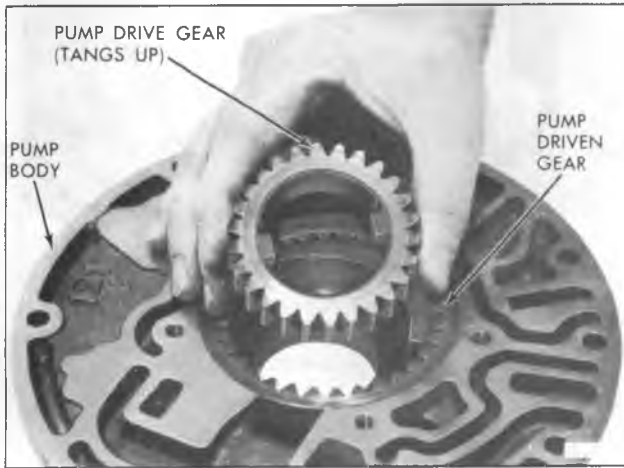

Figure 61—Installing Pump Drive Gear
11. Mark top face of drive and driven gears for reassembly in same position and remove gears (fig. 61).
1. Install drive and driven pump gears into pump body with alignment marks up (fig. 61).